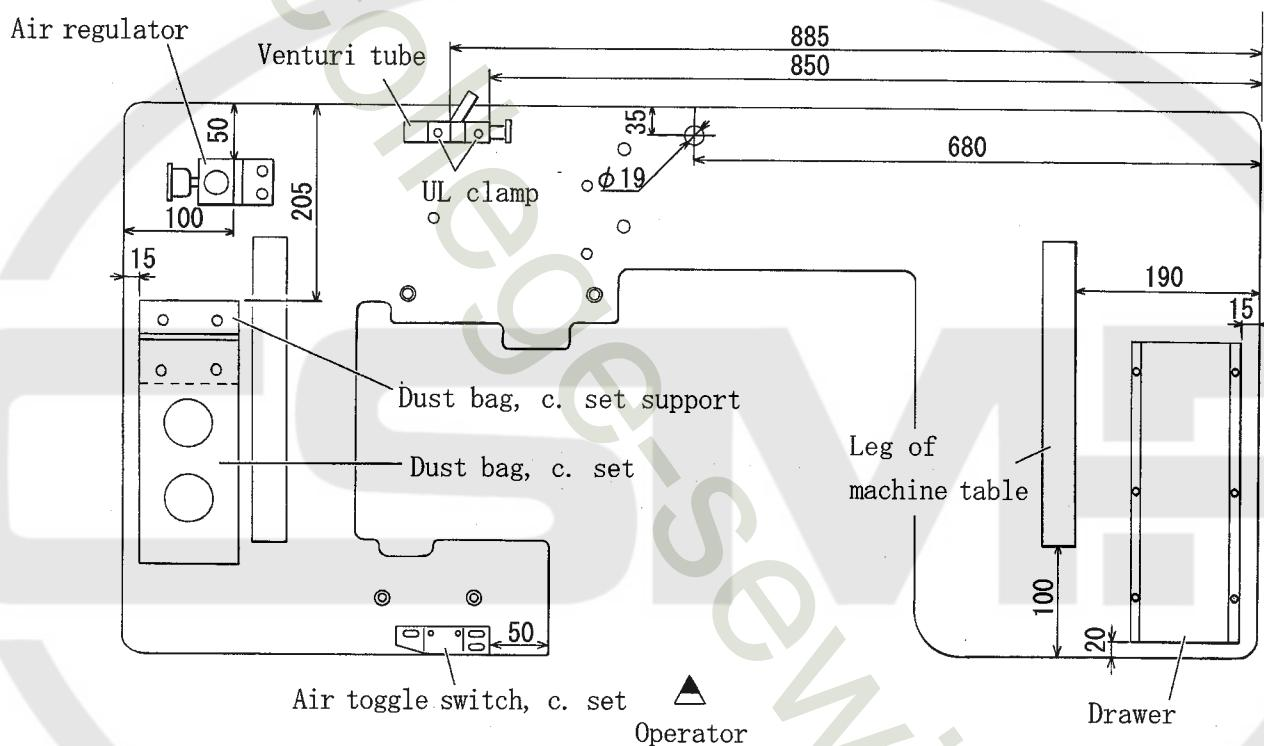

Fig. 1 (Seen from back surface of machine table)
Install the accessories referring to Fig. 1.
Install the dust bag, c. set① on the back surface of the machine table with wood screws referring to Fig. 1.